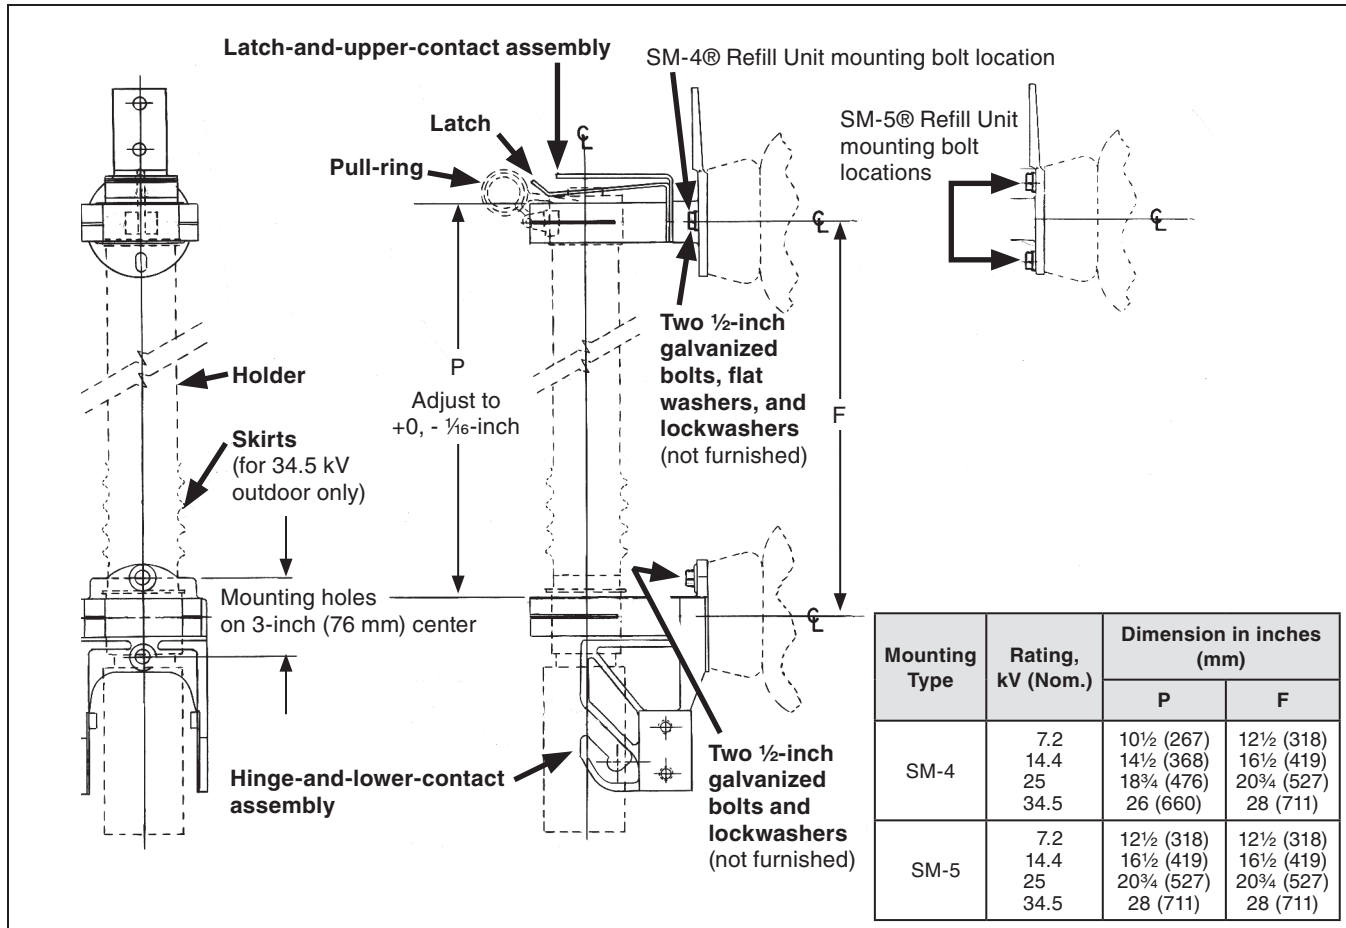

Figure 1. Live-part mounting dimensions for S&C Type SM Power Fuses, Disconnect 45° Opening and Disconnect 180° Opening Styles, Indoor and Outdoor.
- STEP 1.** Install insulators (not included with live parts) with center-to-center distances based on the Dimension F measurements noted in Figure 1 on page 8.
- STEP 6.** Accurately measure the distance between the contact fingers of the latch-and-upper-contact assembly and the contact fingers of the hinge-and-lower-contact assembly. Move the latch-and-upper-contact assembly toward or away from the hinge-and-lower-contact assembly as required to bring this distance within the specified Dimension P limits. See Figure 1 on page 8. Then, with the holder still in the **Closed** position, fully tighten the latch-and-upper-contact assembly mounting bolts.
Make sure the distances between the two sets of contact fingers remain within the specified Dimension P limits on both sides of the contacts. See Figure 1 on page 8. Also, verify the presence of the NO-OX-ID “A Special” oxidation-inhibiting grease (available from Sanchem Incorporated) applied to the contacts at the factory and that this grease is still free of contaminants. If necessary, clean the contact surfaces with a nontoxic, nonflammable solvent and apply a coating of NO-OX-ID “A Special” grease or a similar nonmetallic-filler oxidation-inhibiting grease.